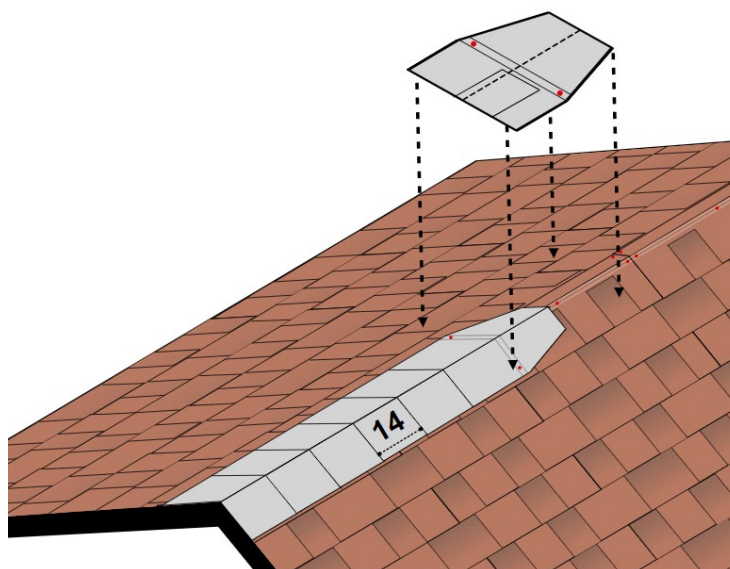

Fig. 11 - Ridge elements installation
- Fix the first ridge element with 2 galvanized nails at least 40mm long, one nail on each side - Fig. 11. Proceed with the installation of the other ridge elements in sequence, leaving an exposed part of 14 cm between one element and the next.